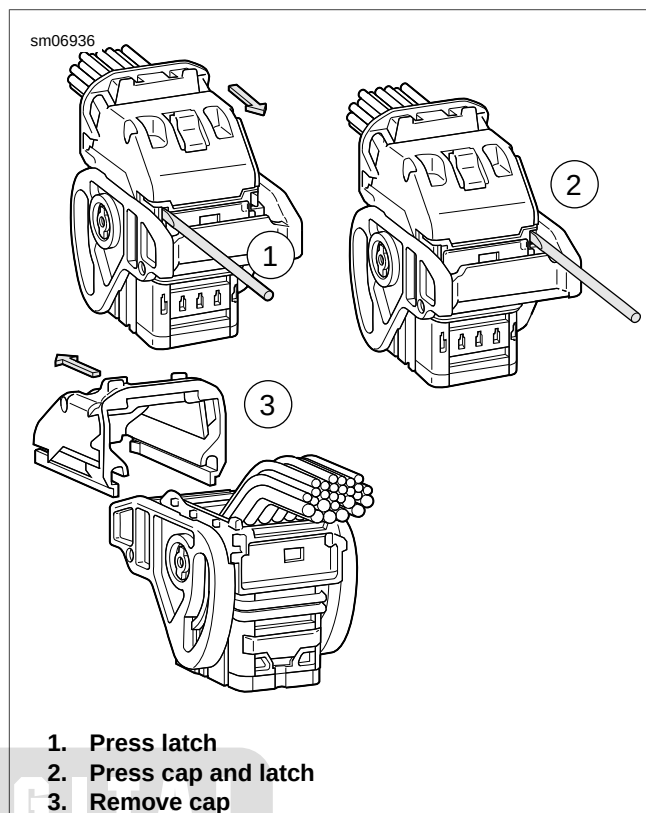
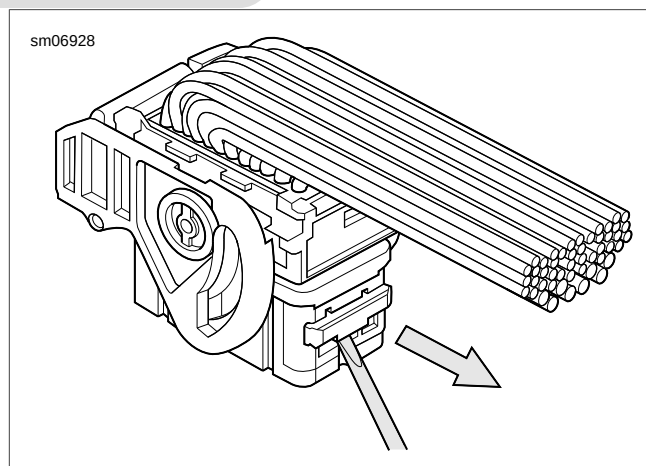

Figure A-39. Remove the Wire Lead Cap
Figure A-40. Molex CMC Sealed Connector Secondary Lock
2. See Figure A-39. Open a wire cap latch with a small screwdriver (1).
3. Maintain pressure on the cap and open the opposite latch with the screw driver (2).
4. Slide the cap off (3).
5. See Figure A-40. Use the screwdriver to open the secondary lock. Pull the locking bar all the way out.